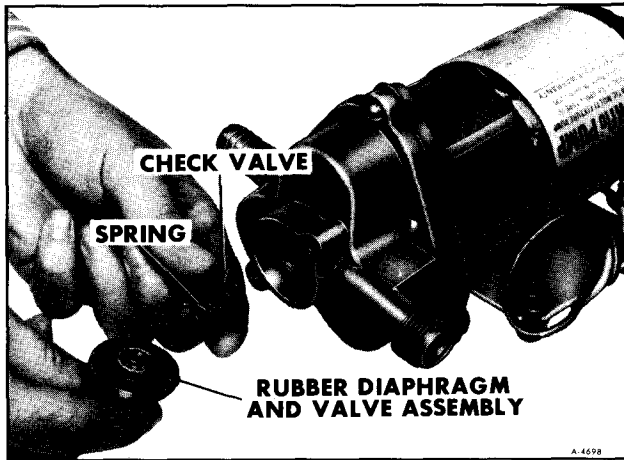

Figure 27—Removing Diaphragm and Valves from Recess
3. Pull rubber diaphragm with valve assembly out of recess, then remove spring and check valve assembly (figure 27).
9. Place check valve assembly, spring, and valve with diaphragm assembly in recess of upper housing (figure 27).